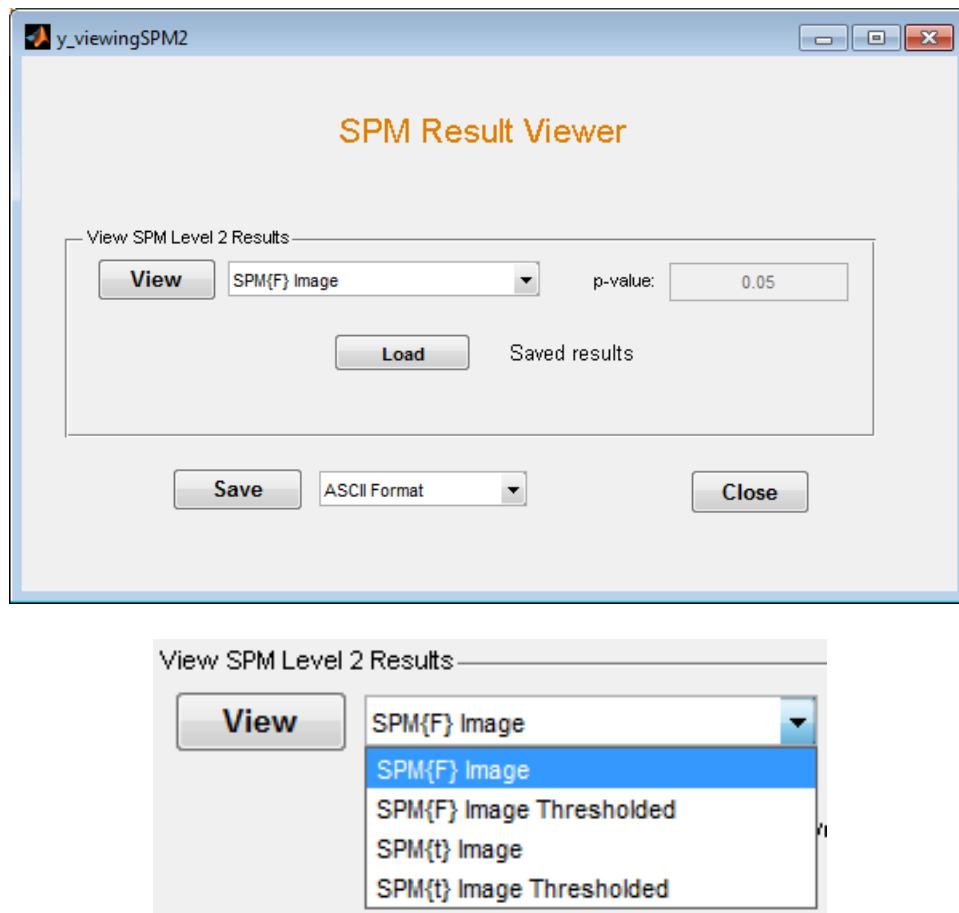

Figure 6-47. (Top) The *SPM Result Viewer* GUI for Level-2 SPM. (Bottom) Detail view of the *View* drop-down menu.
- Press the *View SPM results* button in the 'Contrast specification, result visualization' module. This will launch the *SPM Result Viewer GUI* (Figure 6-47).
- Select an option ('SPM{F} Image', 'SPM{F} Image Thresholded', 'SPM{t} Image', 'SPM{t} Image Thresholded') from the drop-down menu adjacent to the *View* button (Figure 6-47).